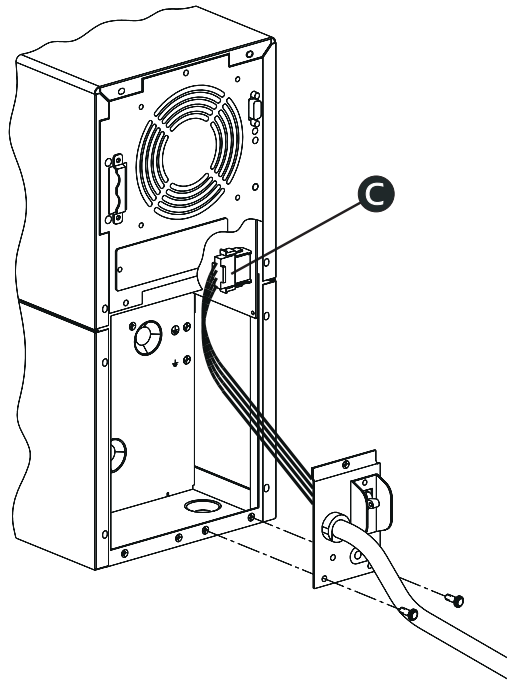

Figure 5-2 Removal of Input Panel (100V and 120V Tower)
1. Remove the two bottom screws from the input panel as shown in Figure 5-2.
- B. Retrieve the old line cord and cut the last 6" from the end with the 4-wire connector attached. This connector and the attached wires will be spliced to your input line. Using approved field-applied splicing devices, connect the two black wires to Line1 (or Hot) of your input line and the two white wires to Line2 (or Neutral) of your input line. Plug the connector into the mating connector in the UPS (Figure 5-2) and reinstall the input and output panels.
- 4. Connect the “male” end of the jumper harness into the 4-pin plug located inside the UPS. (Connector **C** in Figure 5-2)*